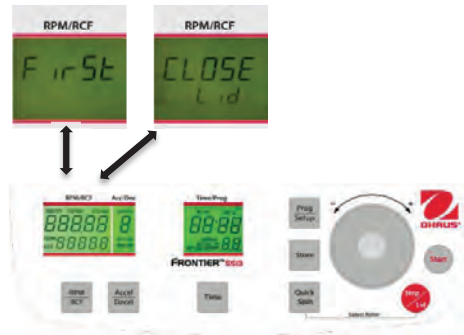
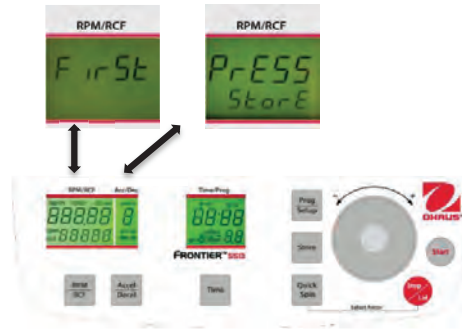

Figure. 21
Figure. 22
Close the lid of the centrifuge. Now proceed as described previously to set all important run parameters. If the lid isn't closed when storing the program, in the display "**RPM/RCF**" (A-1), the words "**FirSt**" and "**CLOSE Lid**" (See figure 21) flashes alternately. If you want to start the run without storing the program, in the display "**RPM/RCF**" (A-1), the words "**First**" and "**PrESS StoreE**" (See figure 22) flashes alternately.
For adaption of data press the key **"Store"** (2) (refer to figures 21 and 22) for approx. 1 second. If the program is stored correctly, the word **"StorE"** appears in the display **"RPM/RCF"** (A-1). As a result, the word **"programm"** (M10) disappears.